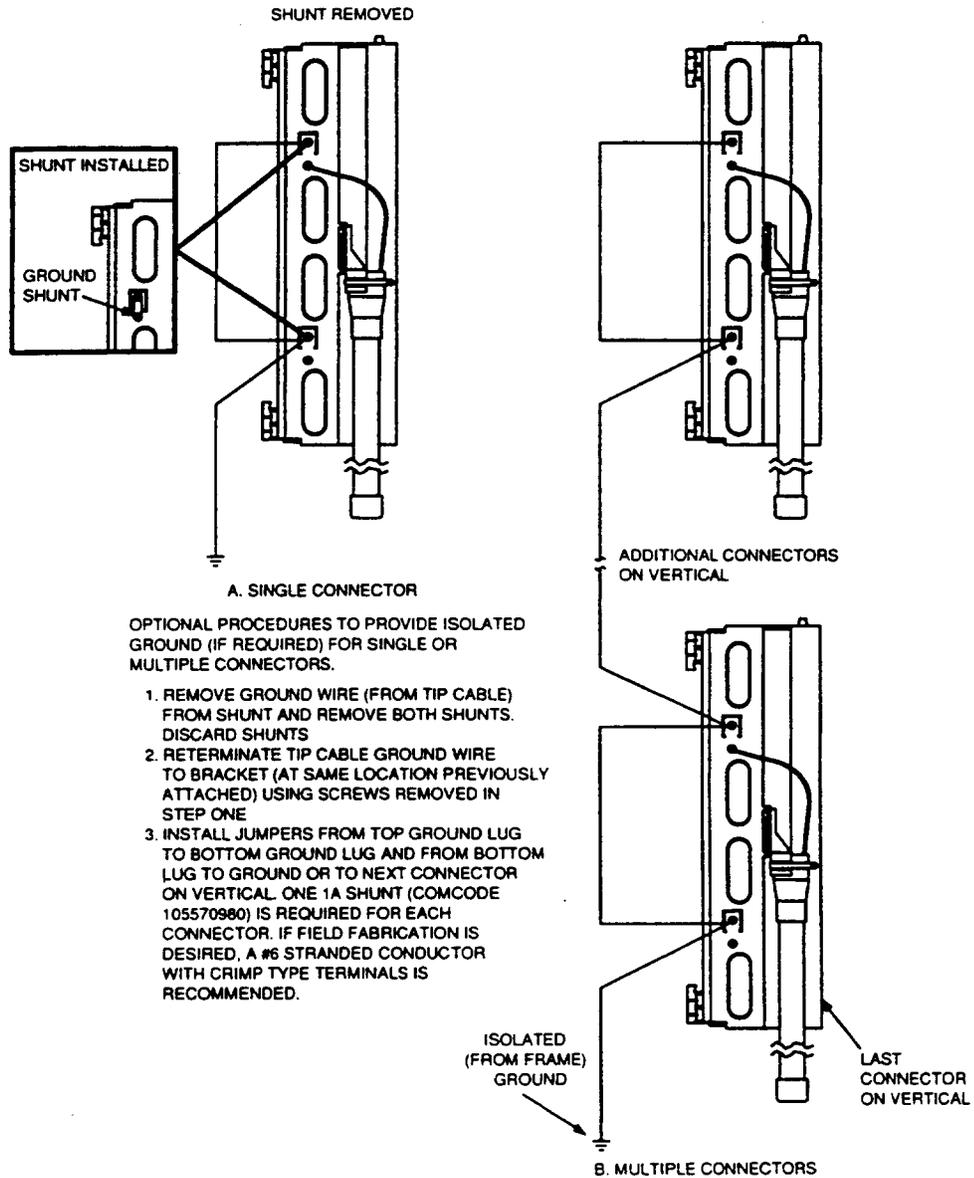

Figure 6. Converting to Isolated Ground System
**3.09** The 311-type connector can be grounded to the frame in the standard arrangement or converted to an isolated ground. The method of converting the ground shunt to an isolated ground system is shown in Figure 6.